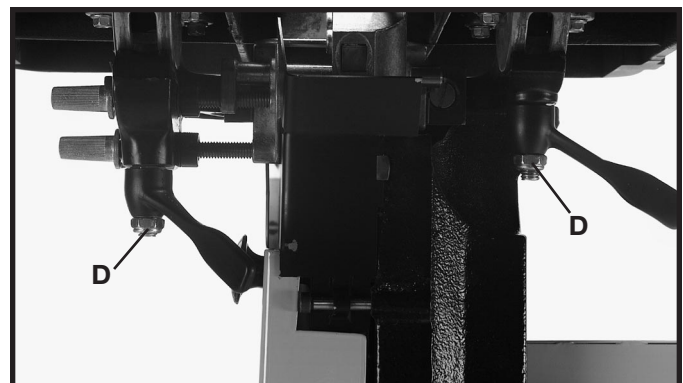

Fig. 30
4. Thread a 7/16" locknut (D) Fig. 30, onto each stud, up to the table handle and then loosen a 1/2 turn.